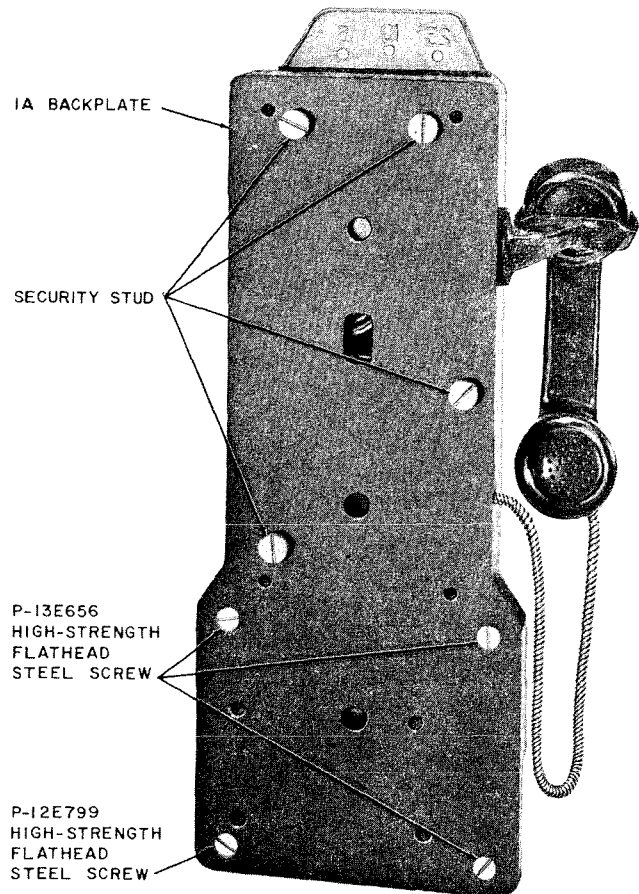

Fig. 25— Rear View of Coin Collector with 1A Backplate Attached
3.31 The 1A backplate is provided with clearance holes for security studs and mounting screws. It is fastened to the coin collector backplate by replacing the four lower housing assembly screws with one P-12E799 and three P-13E656 high-strength flathead steel screws (Fig. 25). The replacement screws must be ordered separately.